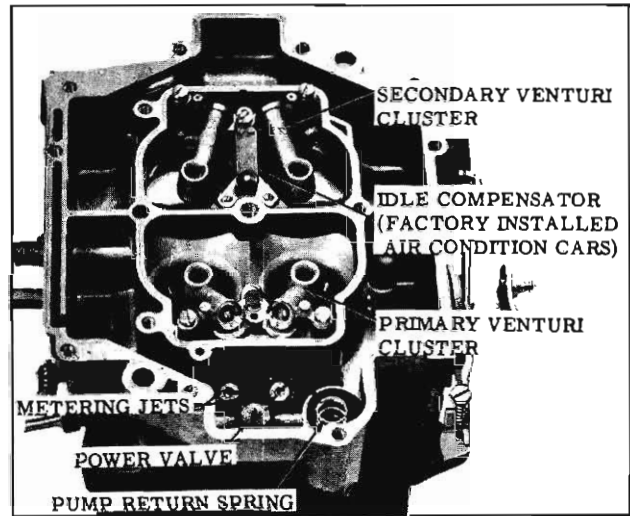

Fig. 4-157 Float Bowl Assembly
- primary side, then remove the cluster and gasket. (Fig. 4-157)